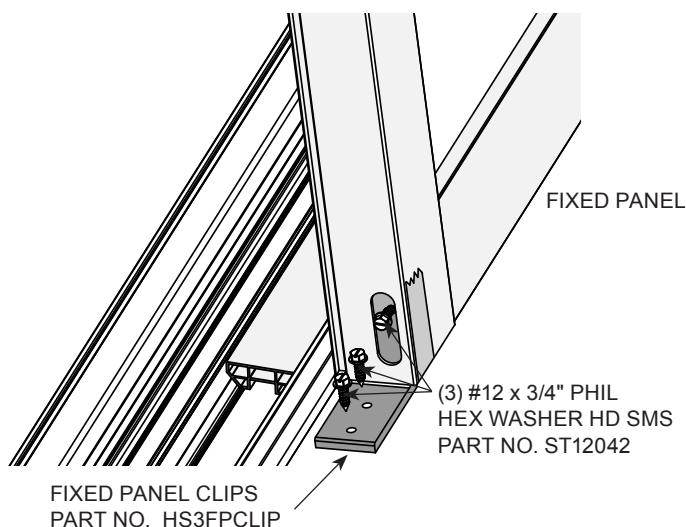

FIG. 21
5. Fasten the top and bottom fixed panel clips to the fixed interlock stile of the fixed panel with Part No. ST12042 #12 x 3/4" Phillips Hex Washer HD screws and then to the head and sill frame members. (FIG. 21)